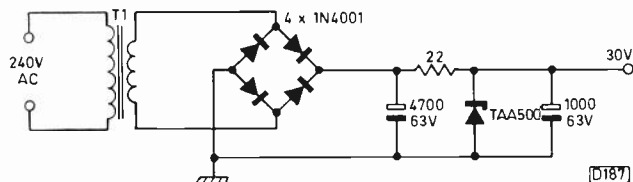

Fig. 2: Simple stabilised 30V supply circuit.
(1) A degaussing coil would probably cost you £20 or more, yet many engineers carry one with them without realising it. I refer to the "instant heat gun" many of us carry in our kits. It does a first rate job and can be even better than a degaussing coil in stubborn cases. Always check the degaussing resistor and the continuity of the circuit of course.
(2) Rather than carry a large bottle of isopropyl or whatever you use for cleaning upper drum assemblies try this tip. Cut half a dozen kitchen towels into quarters (24 pieces) and completely soak them in the cleaning fluid, then put them in a plastic bag to prevent evaporation. It can save a lot of room in the tool case.
(3) If you want a cheap 30V supply for fault finding (tuners etc.) and you have a scrap Rediffusion Mark 3 chassis, the little PCB mounted mains transformer 6T1 (Hinchley type 21861) on the power supply panel is ideal. Fig. 2 shows a suitable circuit.